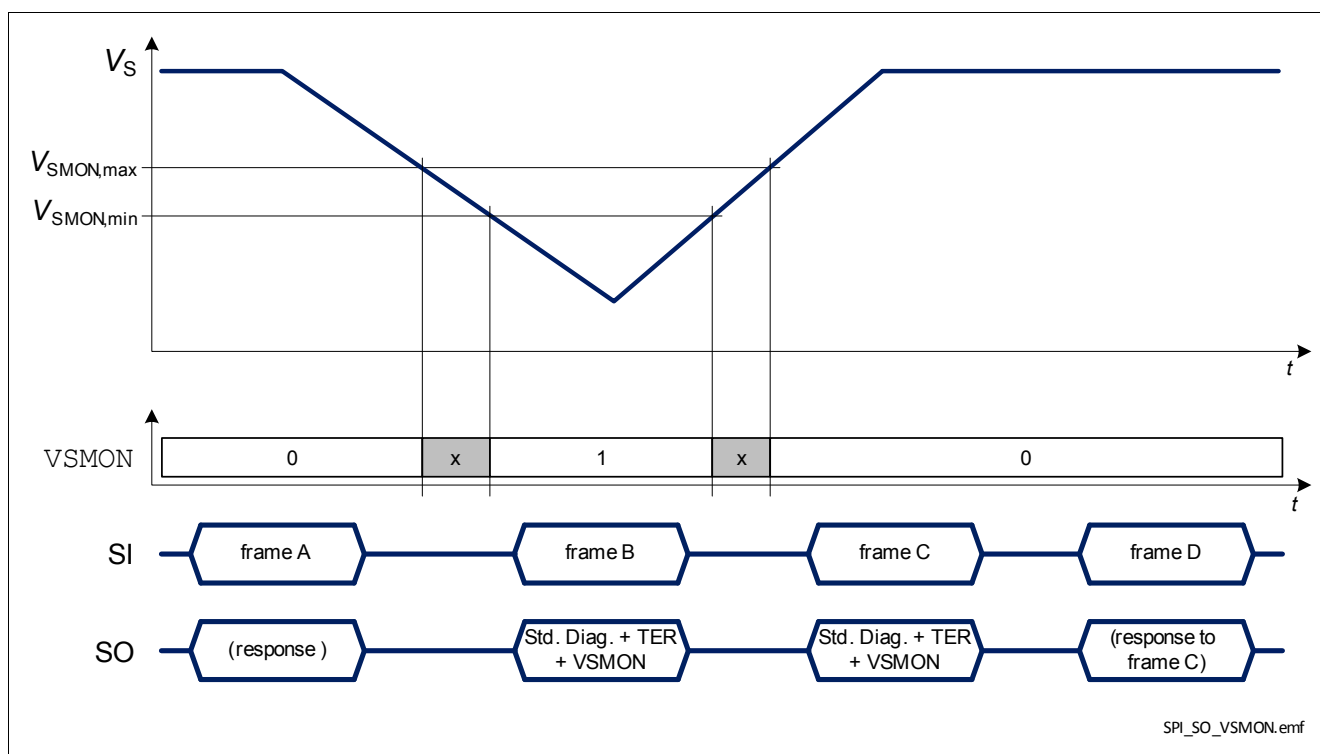

Figure 34 BTS54040-LBB response in case of a negative battery voltage transient
- when $V_S < V_{\text{SMON}}$ and $\text{DCR.MUX} \neq 111_{\text{B}}$, as shown in Figure 34